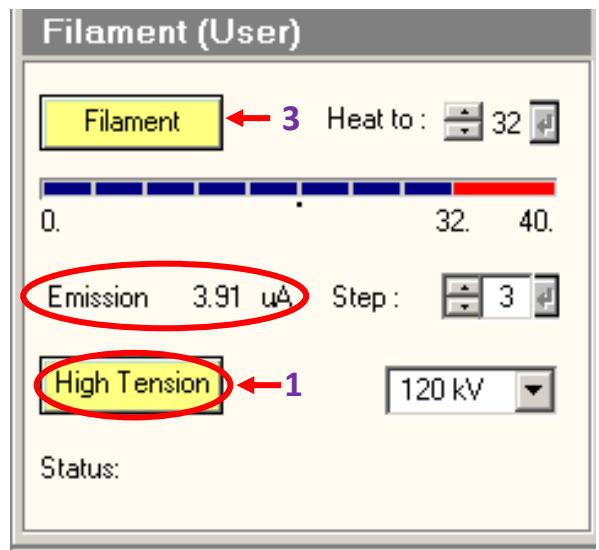

Figure 2: High Tension and Filament
1. Check the **High Tension** status. If you are the first user, you will have to turn it on from the Microscope user interface, see Figure 2. After turning it on you will hear a high-pitched sound and the emission value will spike and then should return below $2 \mu\text{A}$ (red arrow oval Figure 2).